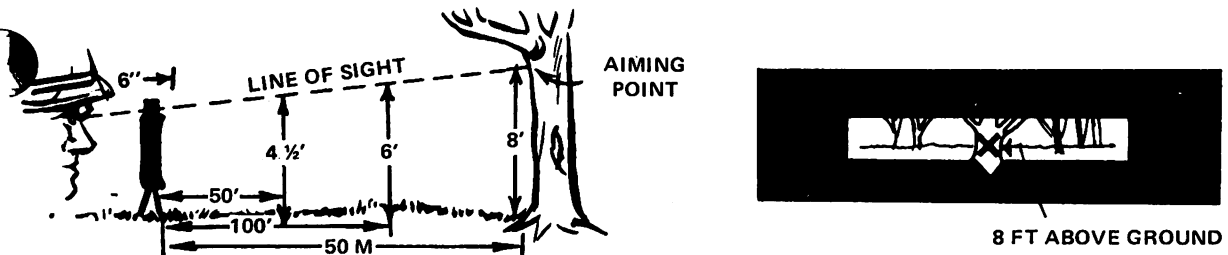

Figure 5.
b. Position the eye about 6 inches to the rear of the sight while sighting through the peepsight. The groove of the sight should be in line with the aiming point. The aiming point should be in the center of the desired area of coverage with the bottom edge of the peepsight parallel to the ground which is to be covered with the fragment spray (figure 5).